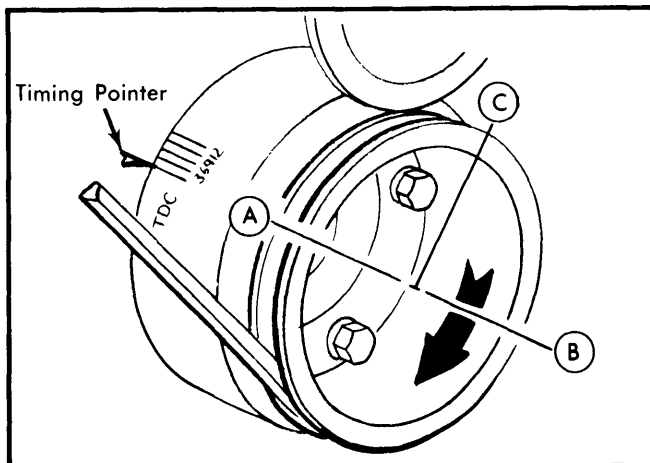

Fig. 7 Crankshaft Positions for Adjusting Hydraulic Valve Lifters
2) With No. 1 piston on TDC at end of compression stroke (position A in Fig. 7), check valve clearance on the following valves: No. 1 intake, No. 1 exhaust, No. 7 intake, No. 5 exhaust, No. 8 intake, No. 4 exhaust.
3) Rotate crankshaft to position B as shown in Fig. 7 and check valve clearance on the following valves: No. 4 intake, No. 2 exhaust, No. 5 intake, No. 6 exhaust.
4) Rotate crankshaft to position C as shown in Fig. 7 and check valve clearance on the following valves: No. 2 intake, No. 3 exhaust, No. 3 intake, No. 7 exhaust, No. 6 intake, No. 8 exhaust.